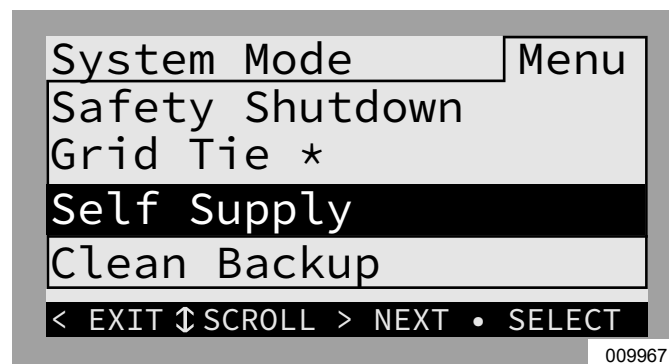

Figure 6-4. Selecting System Modes (2 of 4)
- See Figure 6-4. Use the up and down arrows to highlight the desired mode and press the center button to select.